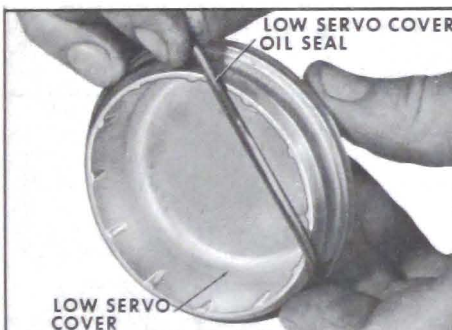

Figure 5-125
4. Inspect low servo cover seal. If nicked, torn or worn discard. See Figure 5-125.